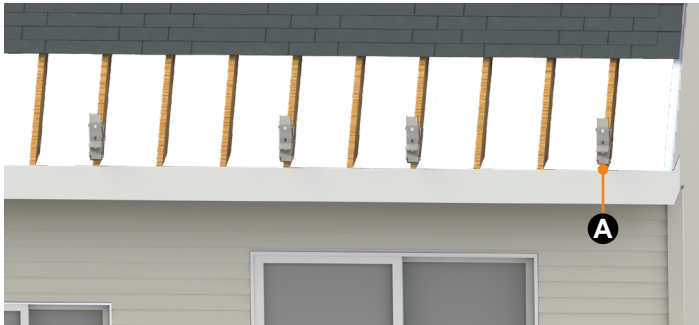

Fig.48
12. Examine the marks made at the left and right edges of the awning and the bracket positions listed in the "Bracket Locations by Awning Size vs. Stud/Brick Location" subsection of the "Prior to Installation" section of this manual (Fig. 20-22). Compare these bracket locations to the marks made identifying the rafter centers along the mounting line. When placing brackets, remember that each bracket assembly ("F" bracket and roof bracket) included with the kit must be used. Space bracket assemblies as evenly as possible across the length of the awning while ensuring that each roof bracket will be installed onto a rafter, with the mounting holes aligning to the center mark of the rafter. Place each bracket assembly appropriately, and make any adjustments as needed to the left/right positioning of the awning. Re-mark the new left and right edges of the awning as needed after adjustments. Figure 48 depicts an install for a 12'x10' awning with appropriate alignment between rafters and brackets for awning size.